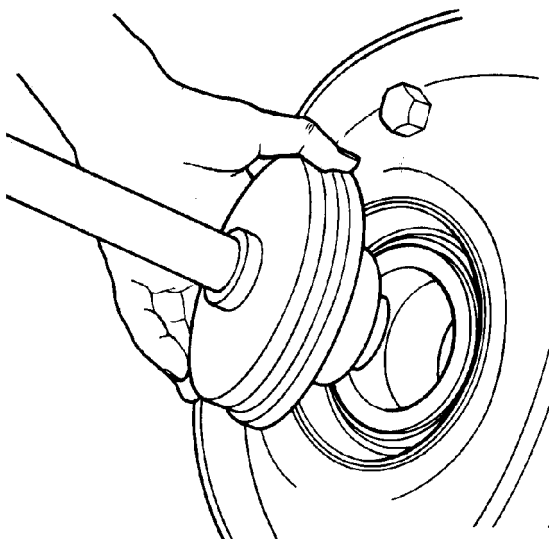

Figure 31 Install Tool, Centering Into Bore
4. Install tool, centering into the bore of inner bearing cone (Figure 31). Start seal into bore. Be sure seal is not cocked; tap tool handle lightly to start seal into hub bore. Check to see that seal is not cocked.